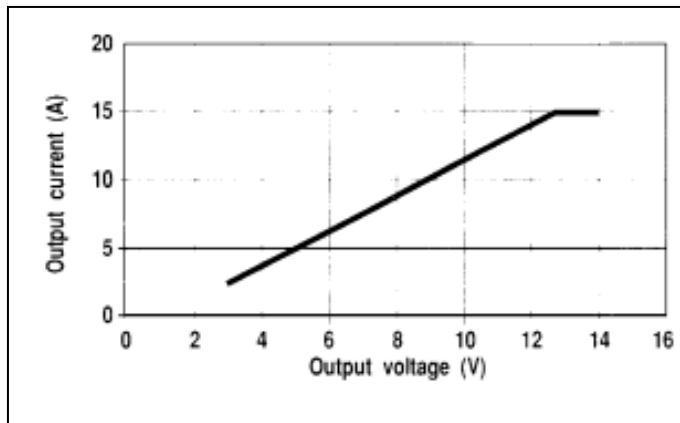

Figure 3. Typical Output Voltage and Output Current Characteristics
2. Maximum current is dependent upon output voltage as shown in Fig. 3.
Overload (Foldback) current limiting gives protection against excessive overload and short circuit output. When an overload (foldback) condition exists, the unit drops out of voltage regulation and the OVERLOAD indicator will be illuminated. The foldback characteristic shown in the graph in Fig. 3 takes effect before the primary fuse blows, dropping the output voltage and current in proportion to the degree of overload. If the output is short-circuited (maximum overload condition), the output current drops below its rating at 3V. Monitoring the output voltage and current will detect any such overload conditions.